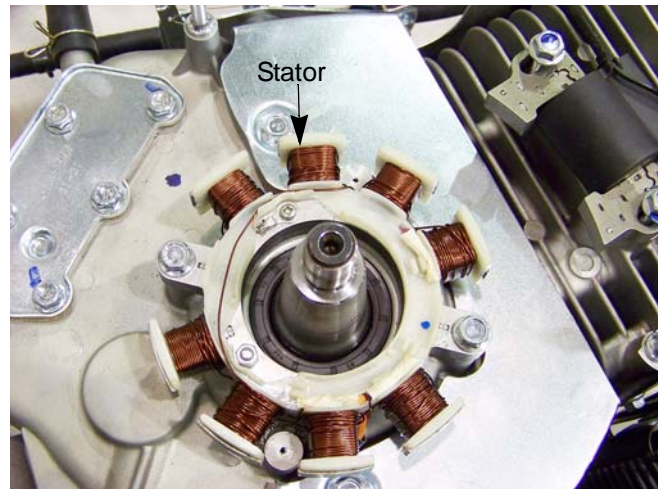

Figure 6.35
- Alternator stator: The stator consists of copper field windings around an iron core. The stator is attached to the engine block beneath the flywheel. See Figure 6.35.